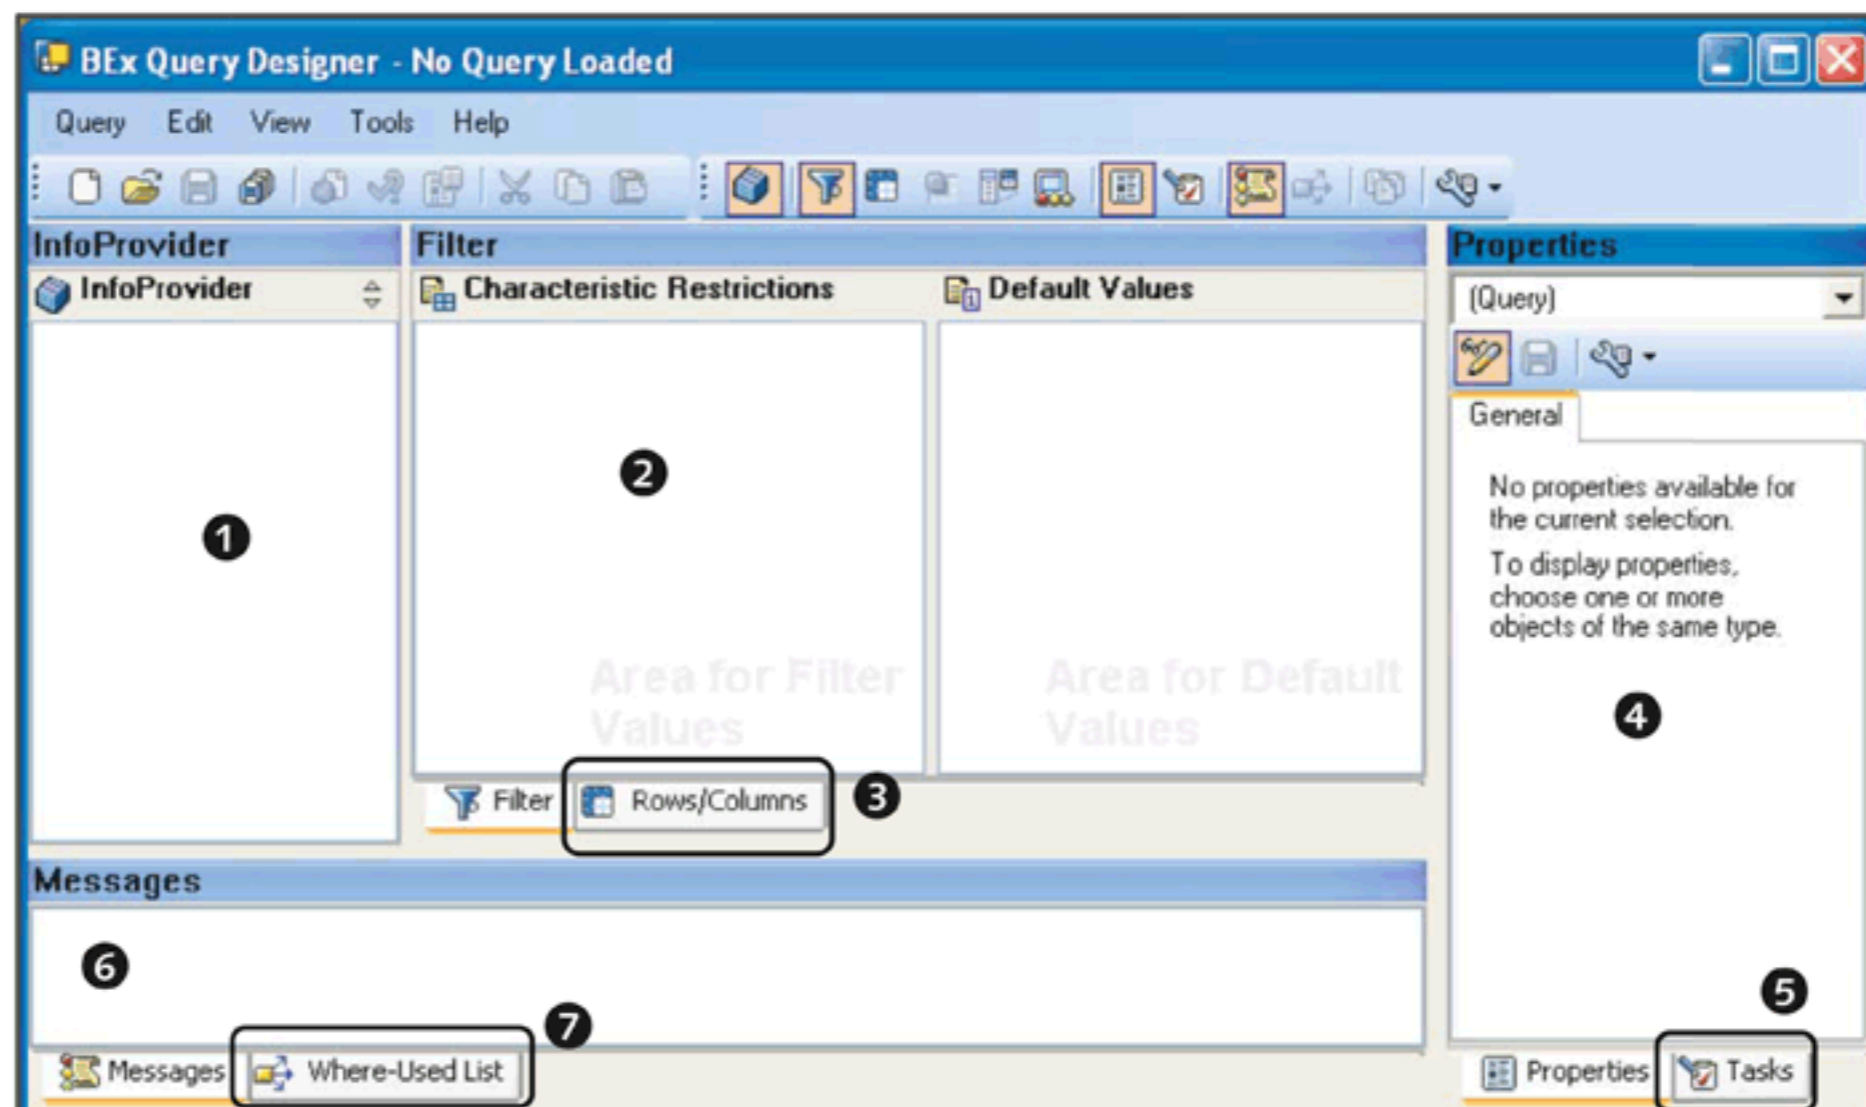
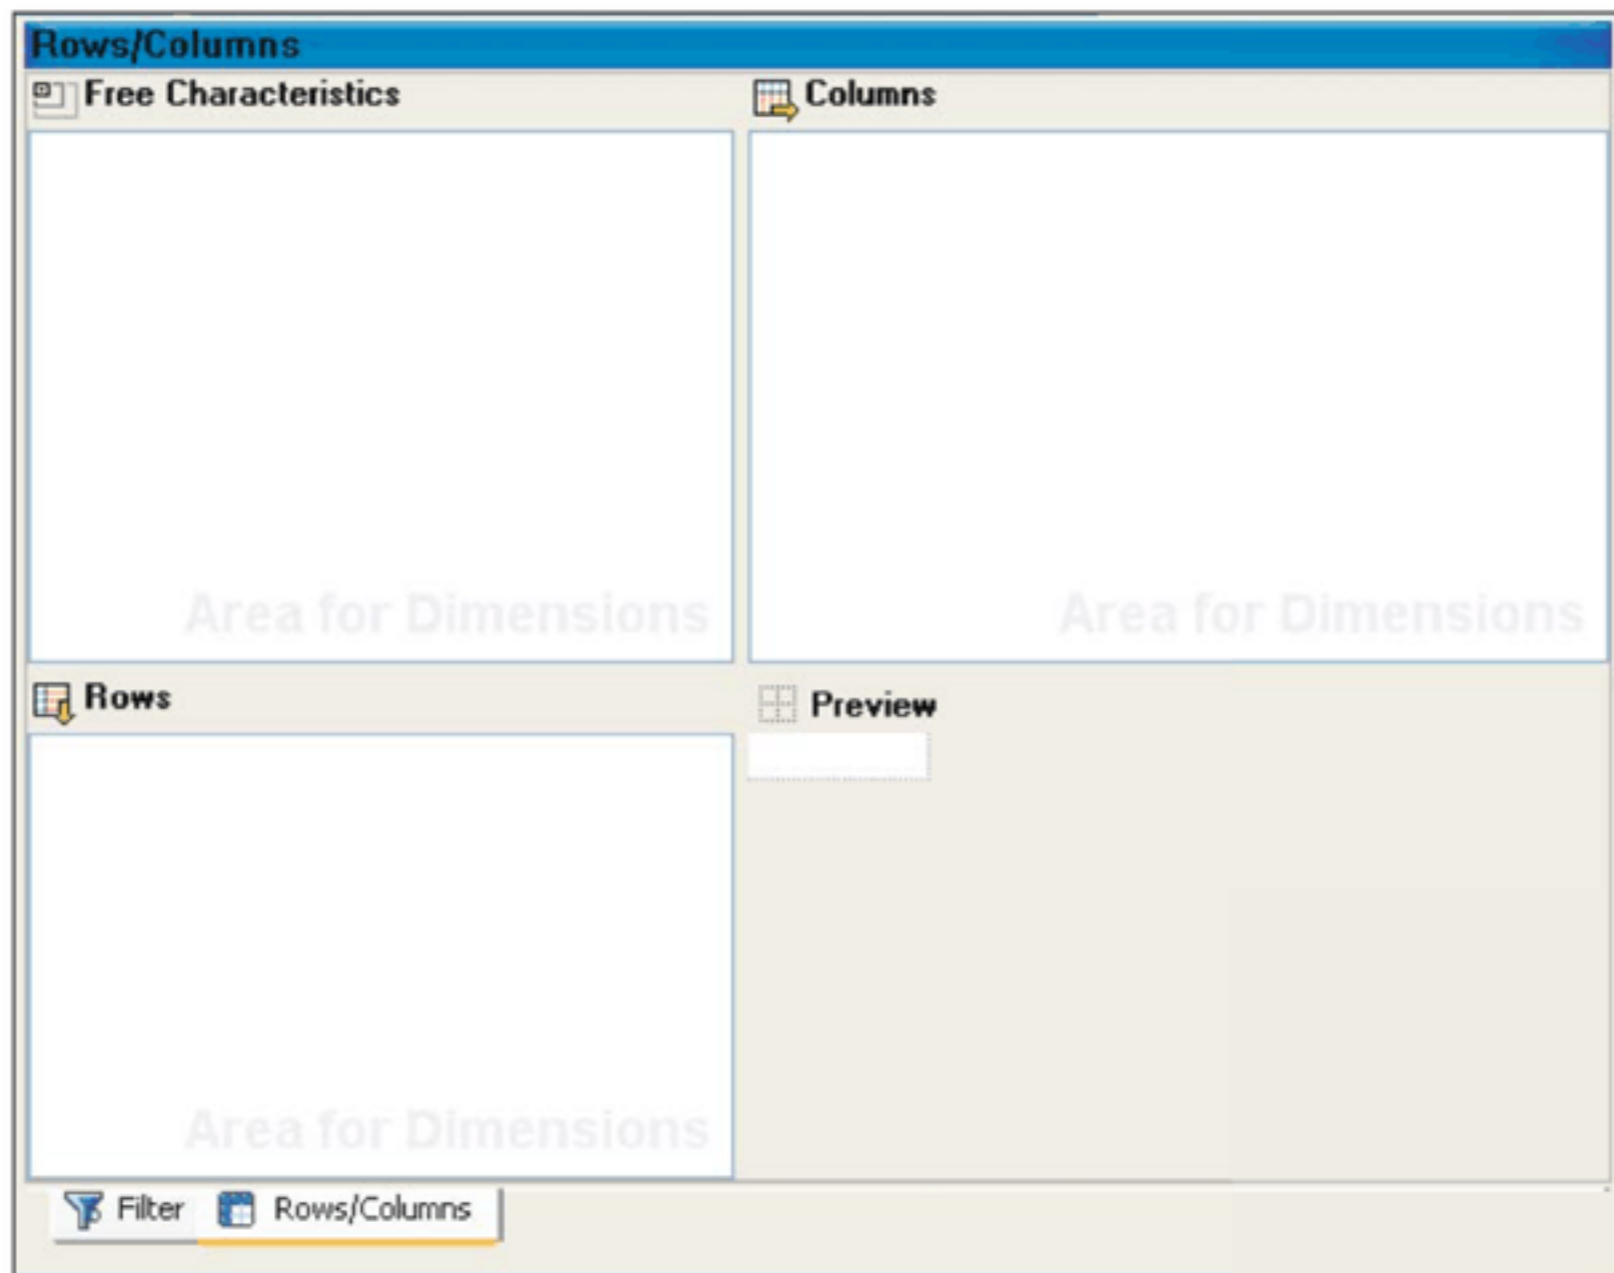
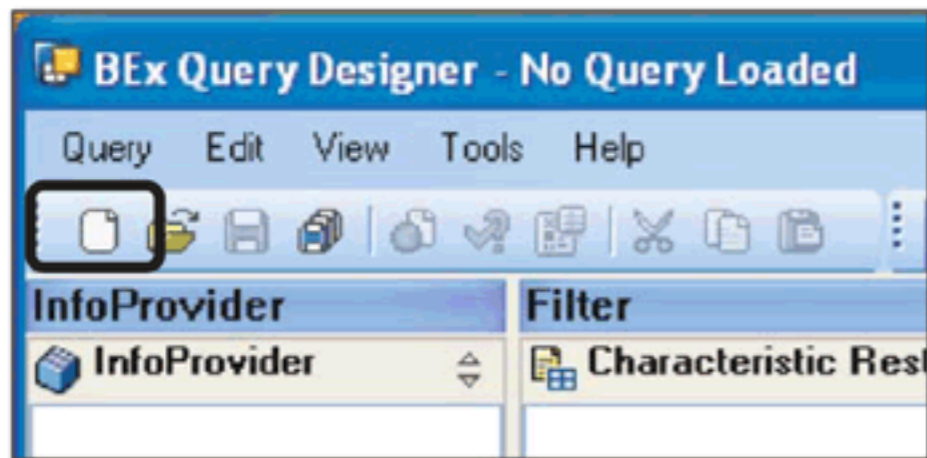

Figure 9.3 BEx Query Designer Screen Layout
Figure 9.4 Rows/Columns Screen Areas
Figure 9.6 Create New Query
When you log in to BEx Query Designer, the default screen appears as shown in Figure 9.3.
Designer (❶ of Figure 9.3). This becomes the base for the query because you can drag the necessary elements (characteristics, key figures, attributes, etc.) from the INFOPROVIDER area into the query definition.
If the query has to be restricted to certain characteristic values, then those filter restrictions are defined in the FILTER area of BEX Query Designer (❷ of Figure 9.3). The static filters are defined in the CHARACTERISTIC RESTRICTIONS sections. The default values for which the query should be first executed are defined in the DEFAULT VALUES area.
The layout of the query is defined on the ROWS/COLUMNS tab of BEX Query Designer (❸ of Figure 9.3). This screen area is displayed in Figure 9.4. The characteristics and key figures to be included as rows or columns in the report layout are specified in the ROWS and COLUMNS areas, respectively. If there are characteristics that you don't want to include in the default view of the query, but you want to make those fields available for drilldown if needed, such characteristics are added to the FREE CHARACTERISTICS area on the ROW/COLUMNS tab. The PREVIEW section provides a preview of the query structure and layout.
All components of the query (including the query itself) have their own sets of properties, descriptions, display settings, and so on, which determine the behavior of that element. The properties for the selected query element are visible in the PROPERTIES screen area of BEX Query Designer (❹ of Figure 9.3).
For different components of a query, there are different tasks or actions that can be performed. These tasks vary based on the element that is selected. Different tasks related to the selected item are listed in the TASKS area, so you can find all relevant actions for an object listed under TASKS. In case of errors, the possible corrective actions and error help are also visible in the TASKS area (❺ of Figure 9.3).
Different messages, such as errors, warnings, or other information related to the query, are displayed in the MESSAGES area (6 of Figure 9.3).
A query or its reusable components can be used in multiple other objects such as workbooks, web templates, and so on. When you use the WHERE-USED LIST for the query or a reusable component, the list of all of the objects where the component or query is used is displayed in the WHERE-USED LIST area of BEx Query Designer (7 of Figure 9.3).
Let's begin creating a simple query based on the sales InfoCube (BWSD_C01) that we created earlier in Chapter 5. When you log in to BEx Query Designer, you see a default screen as shown earlier in Figure 9.3. To create a new query, you can either use the menu QUERY • NEW or click on the TOOLBAR icon shown in Figure 9.6.